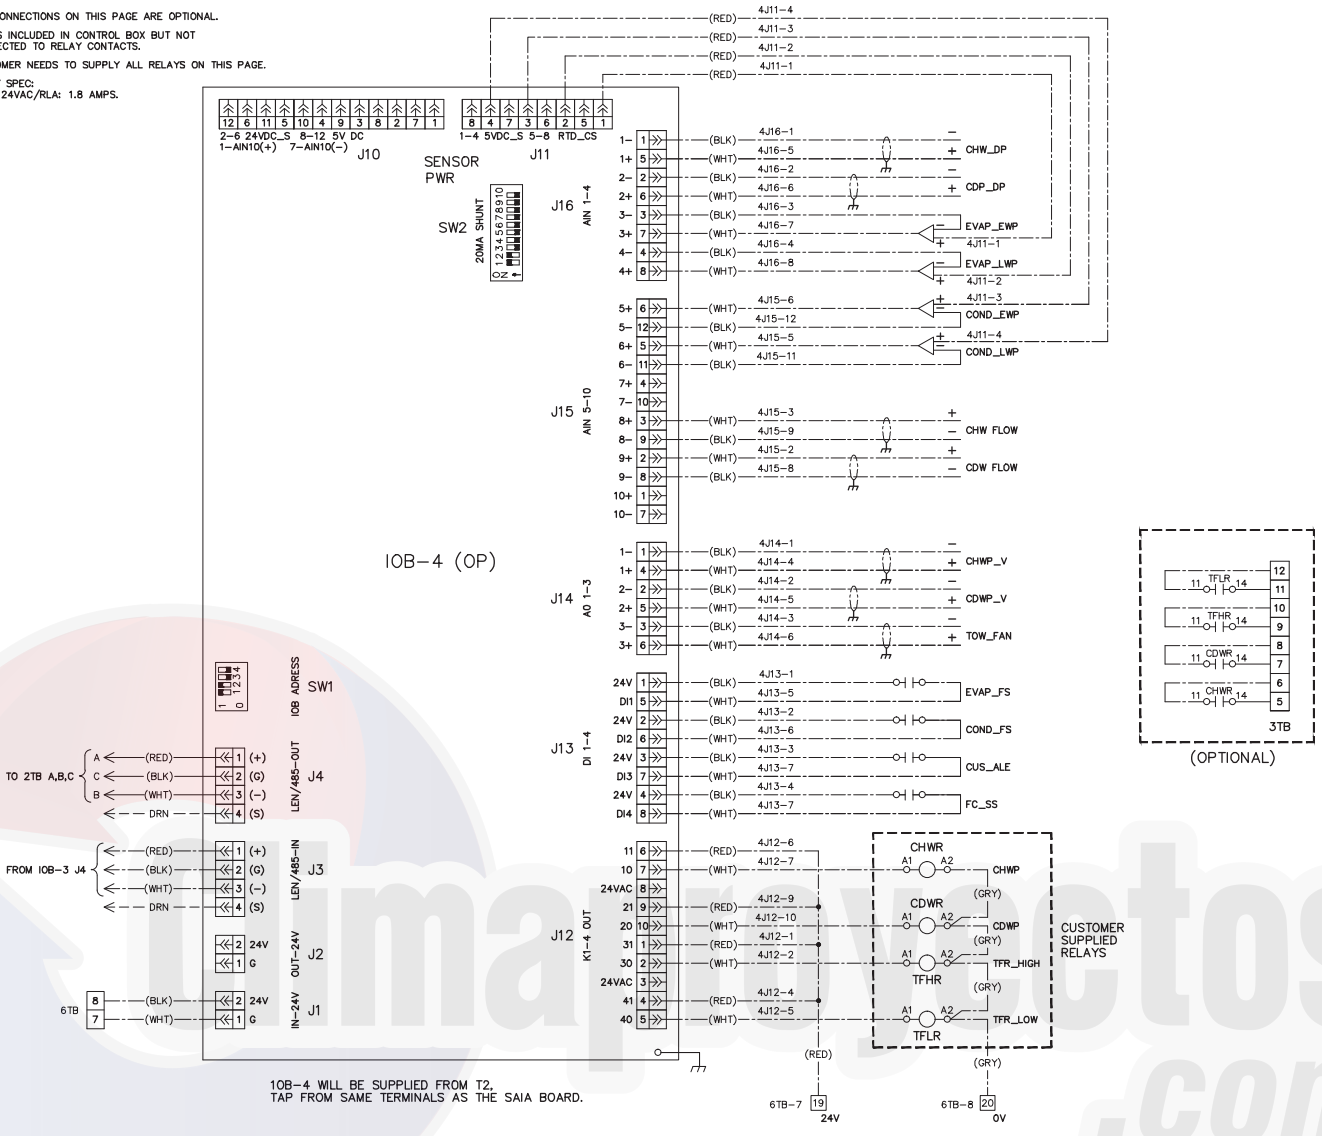

Fig. 5 — IOB 4
1. See Fig. 5 for IOB4 wiring diagram.
2. For pressure readings, only Vout (output) terminal is indicated. See Fig. 5 for Vin (+) and ground (-).